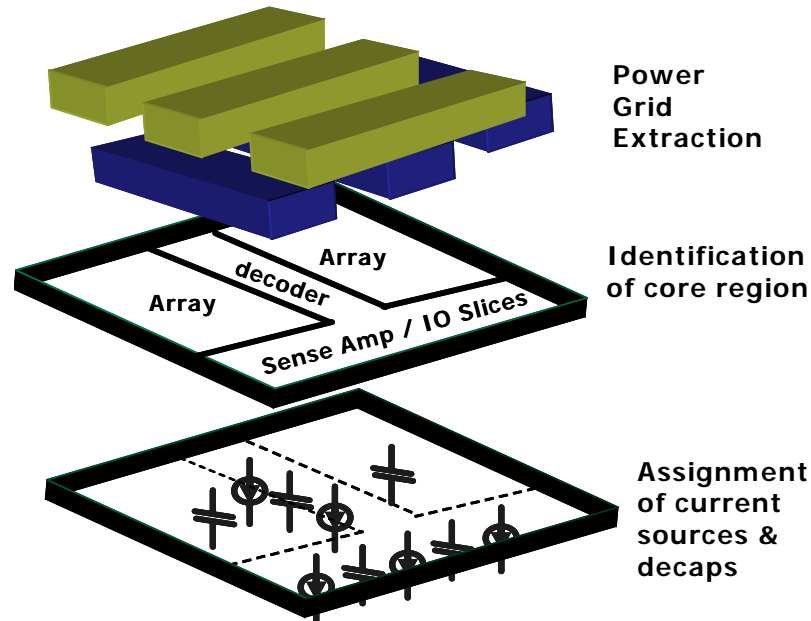

Figure 10-1 RedHawk modeling methodology for memories and I/P
This chapter describes RedHawk's memory and I/O characterization flow, including input data requirements, data preparation, and usage model. Memory modeling for use in RedHawk is partitioned into two parts: (1) extraction of the power grid and assignment of current sources and decaps, and (2) generation of the switching current profiles, leakage currents, and decap values. For the first part, several utilities are available to perform the extraction and current source/decap assignment for the required levels of abstraction. For the second part, several methods are available to capture the power draw, average static current, and dynamic switching current. Figure 10-1 illustrates this modeling methodology for memory blocks.